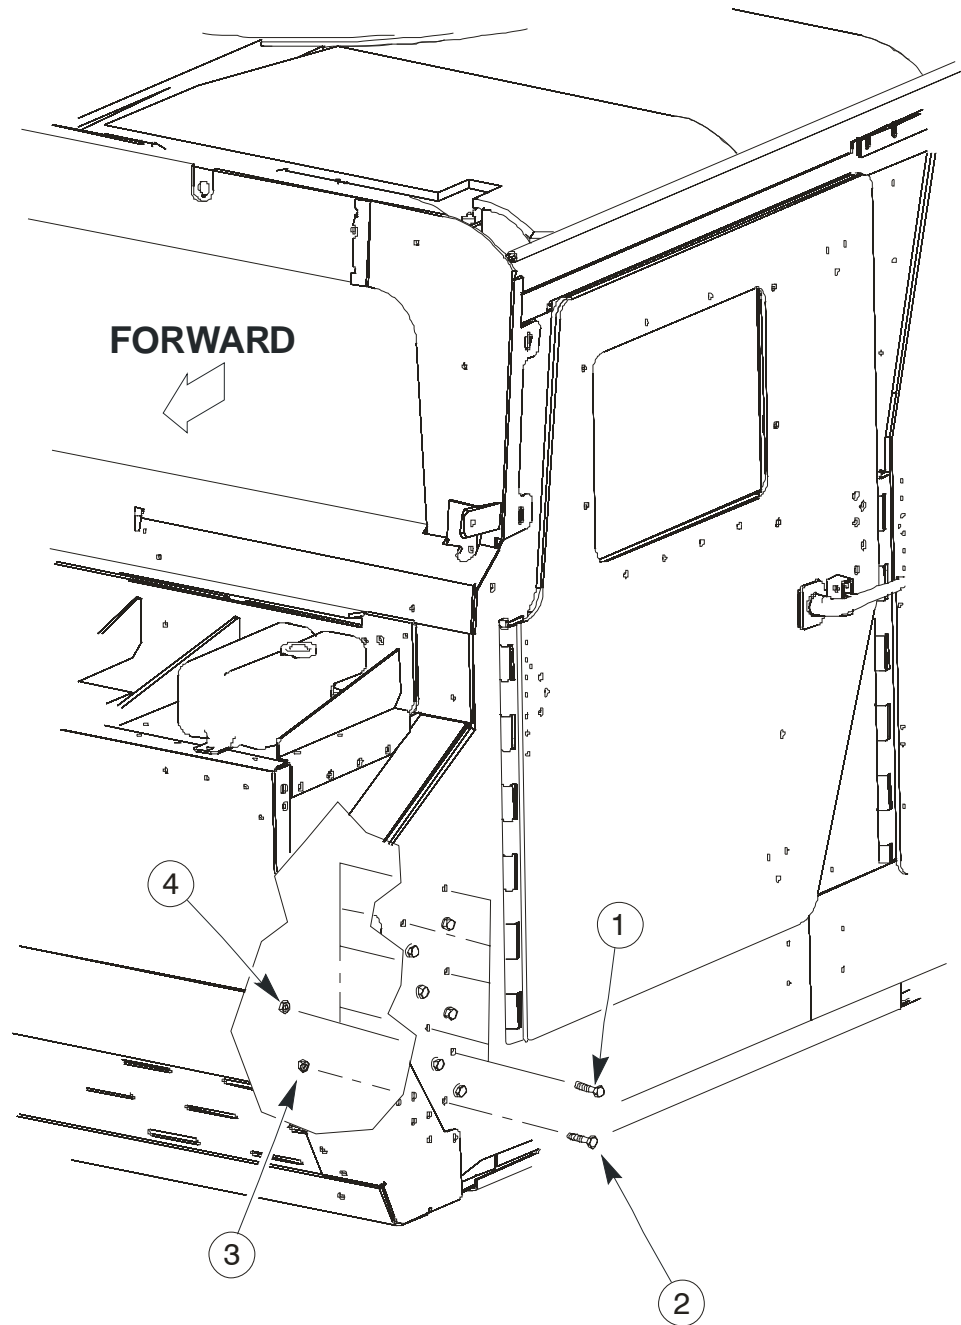

Figure 6.
9. Remove five screws (1), five nuts (4), one screw (2) and one nut (3) from the left side A-pillar locations shown in figure 6. Discard used fasteners.